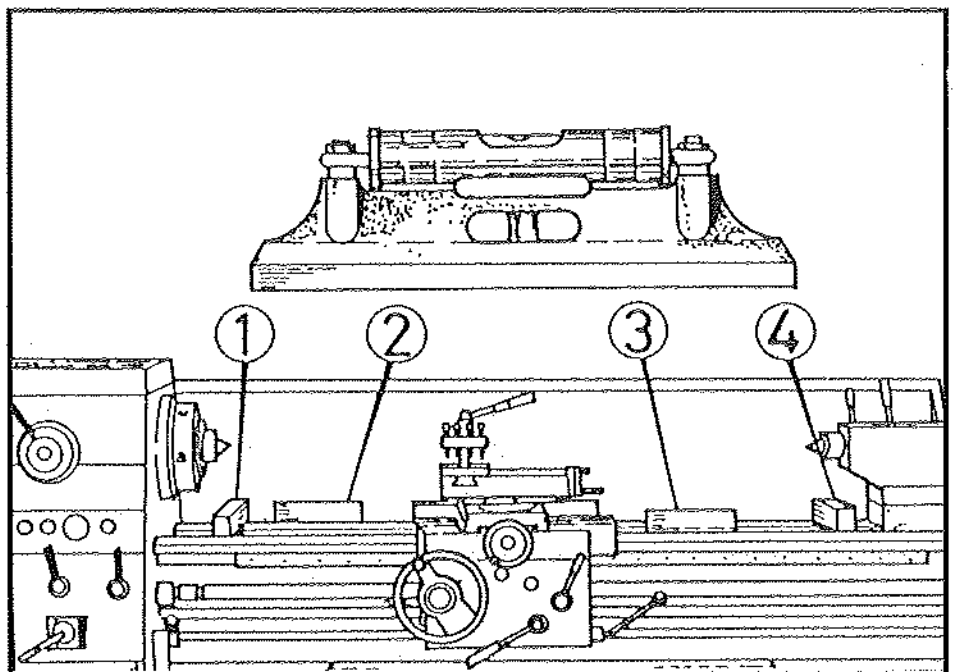

Fig. 2
**FREE-STANDING:** Position lathe on foundation and adjust each of the eight mounting feet to take equal share of the load. Then using a machinists precision level on the bedways (as in Fig 2) adjust the feet to level up machine. Periodically at least every six (6) months check bed level to ensure continued lathe accuracy.
**FIXED-INSTALLATION:** Position lathe over eight bolts (5/8 in. or 16mm. diam.) set into the foundation to correspond with holes in the mounting feet; dimensions are shown on foundation Plan. Accurately level the machine, as in Fig. 2 then tighten hold-down bolts. Re-check bed level.